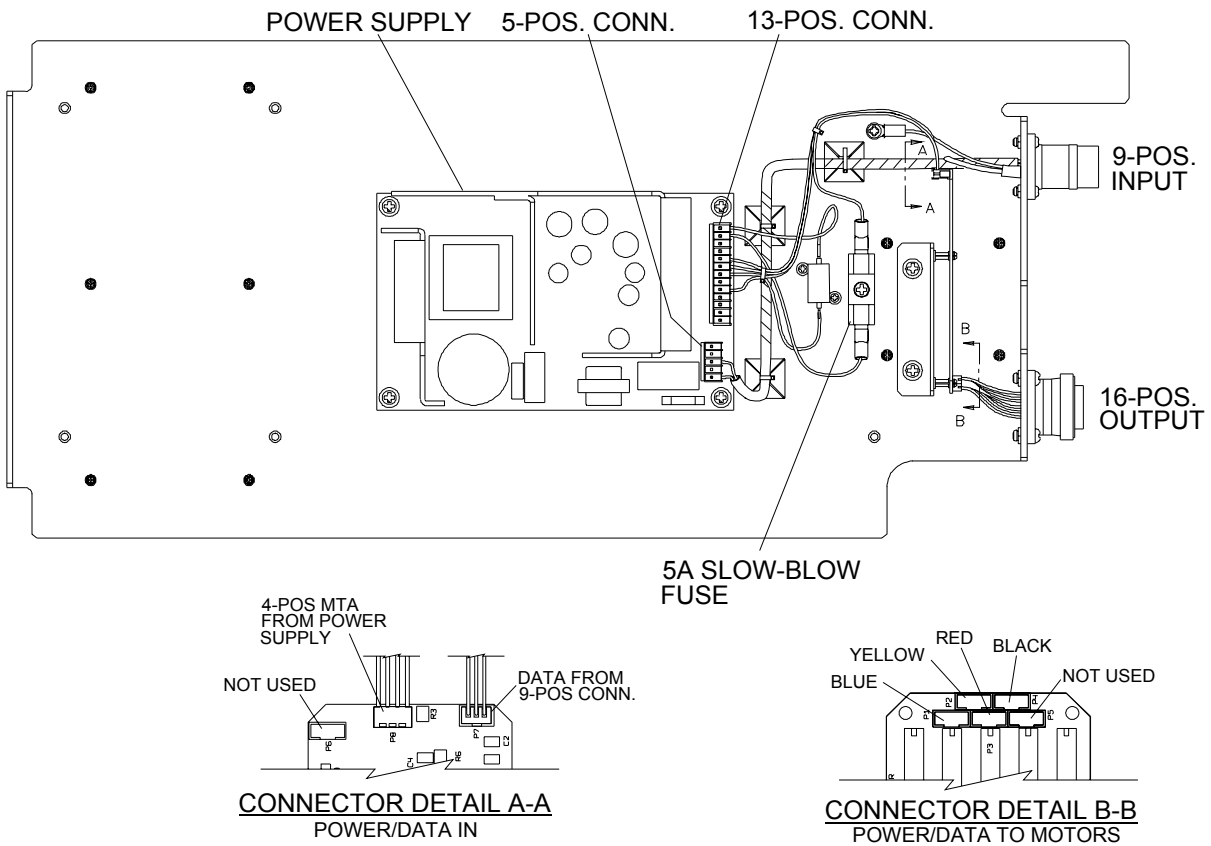

Figure 5.4 - Electronics Plate Assembly (Composer Version)
- ii. Check 5A slow-blow fuse on electronics plate. Replace fuse if needed. See Figure 5.4 - Electronics Plate Assembly (**Composer** Version).